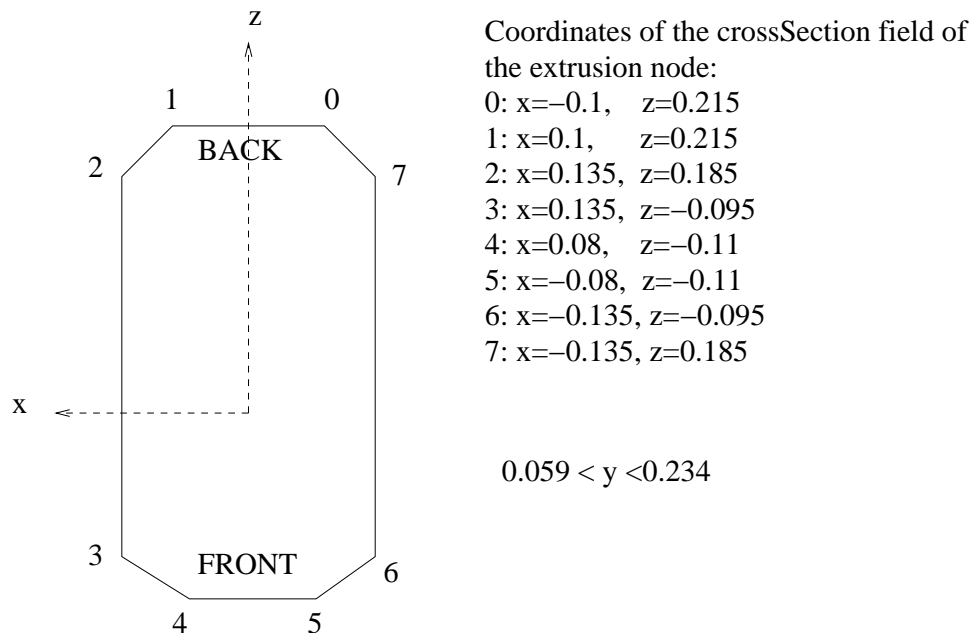

Figure 3.18: Body of the Pioneer 2™ robot
1. for the body: a `Shape` node with a geometry `Extrusion`. See figure 3.18 for the coordinates of the `Extrusion`.